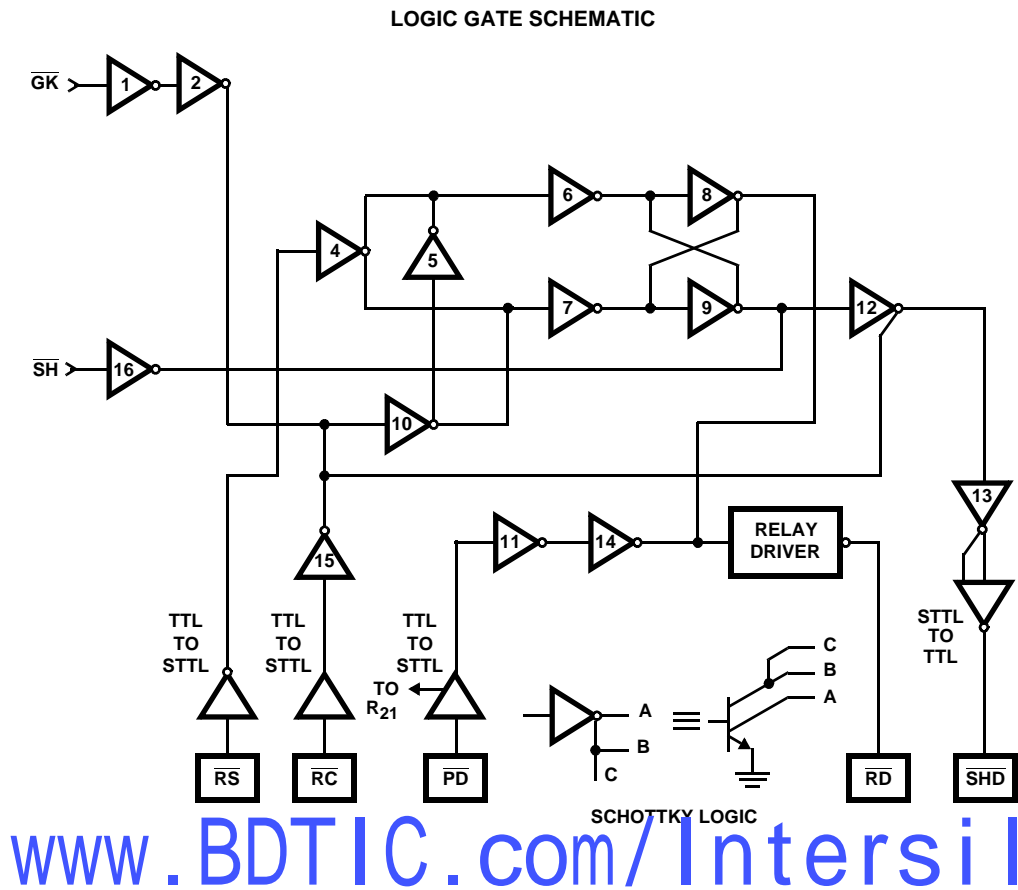

FIGURE 9. LOGIC NETWORK
Figure 9 is a schematic of the combination logic within the network. The external inputs  $\overline{RC}$  (Relay Control) and  $\overline{PD}$  (Power Denial) allow the switch controller to ring the line or deny power to the loop, respectively. The Ring Synchronization input (RS) facilitates switching of the ring relay near a ring current zero crossing in order to minimize inductive kickback from the telephone ringer.